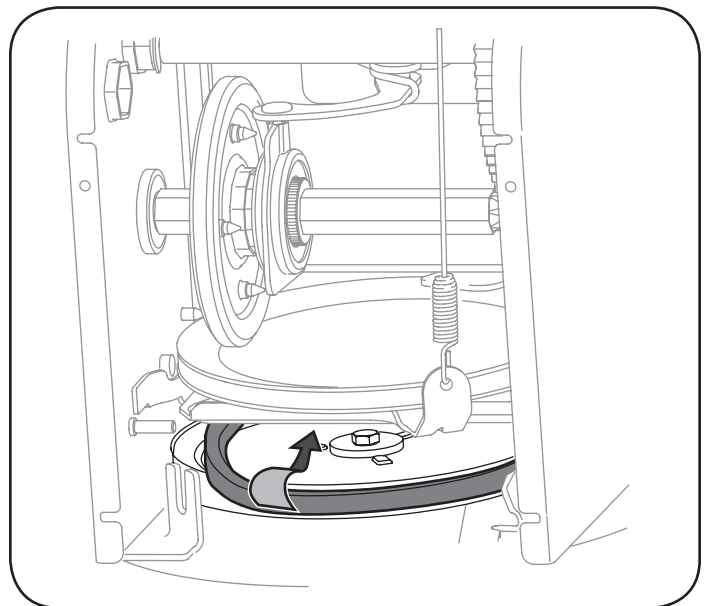

Figure 33
- Remove the belt from around the auger pulley, and slip the belt between the support bracket and the auger pulley. See Figure 33.